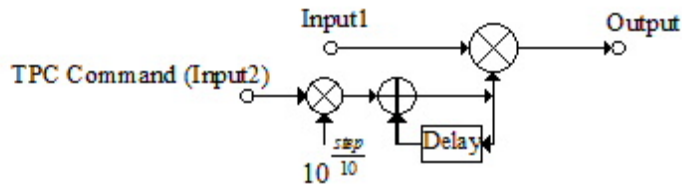

Fig. 1 Block diagram of Power Amplifier with Method = 2.
4. If *Method* is set to TPC command {2}, Input2 also must be connected and each sample corresponds *N* samples at Input1, i.e., one slot. The input signal at Input1 during the first *InitSlot* slots is amplified by *Gain* (dB), and the input signal of each slot at Input1 is further amplified by *Step* (dB) if the value of the corresponding sample at Input2 (i.e., TPC command) is 1, by *-Step* (dB) for TPC command is -1, or kept the power of the previous slot if TPC command is 0, as shon in Fig.1.